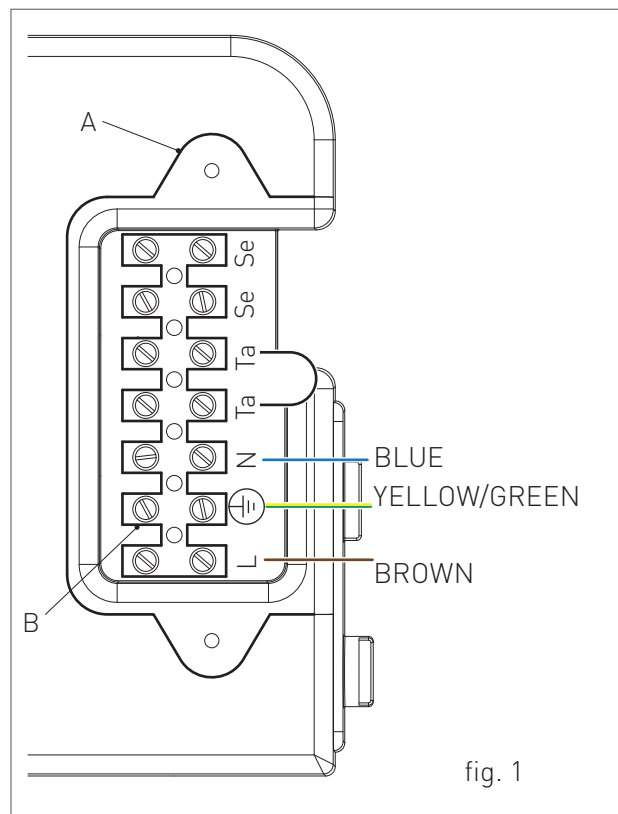

fig. 1
- › loosen the two screws and remove the plate "A" (see fig. 1).